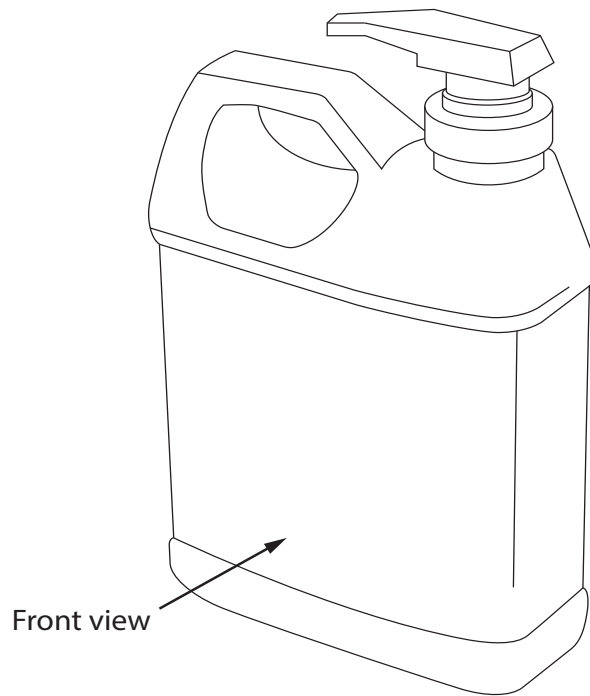

Figure 3
- 6 Figure 3 shows a detergent bottle that has been produced from high density polyethylene (HDPE) using the blow moulding process.